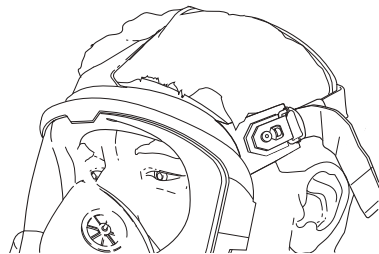

Fig. 25 Hair interfering with face seal
- Hair between the seal and face, or a visible separation of the seal from the face (Fig. 25).